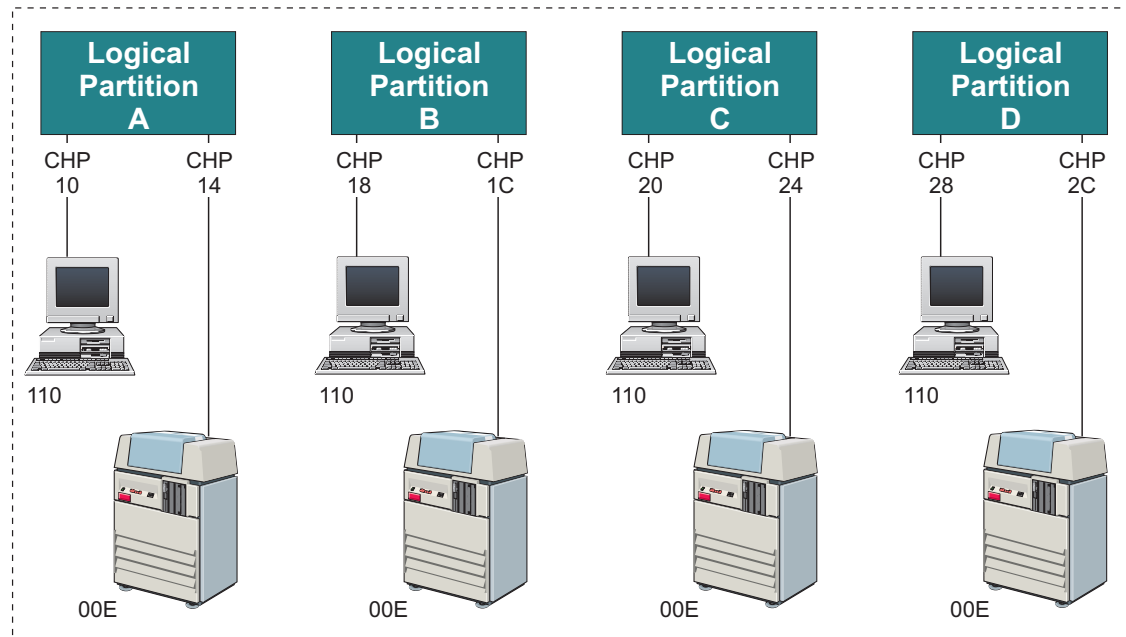

Figure 19. PR/SM configuration with duplicate device numbers
Figure 19 illustrates a configuration where duplicate device numbers are used to represent a console (110) and a printer (00E) within each of four logical partitions.
The following example shows the IOCP statement for Figure 19. This IOCP coding example groups the input statements by logical partition. When coding IOCP, view the I/O devices from a logical partition perspective.